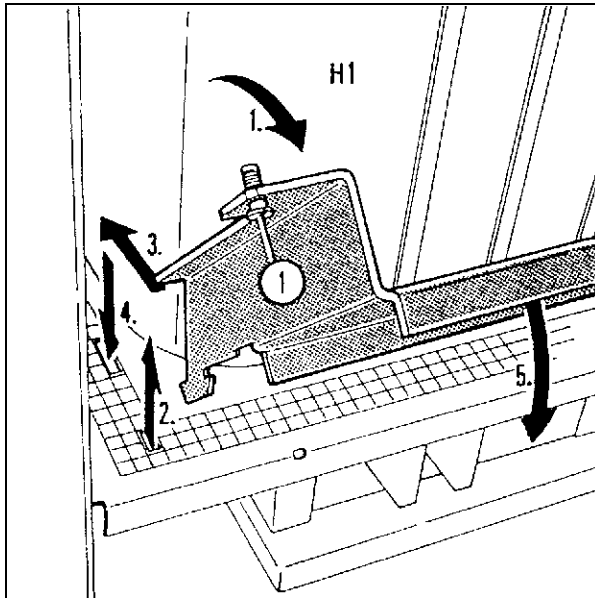

Fig. 47:
- Open the bayonet closures of the support (1/Fig. 47 / p. 43).
- Relocate and fold out the support for the high-voltage transformer according to (Fig. 47 / p. 43).